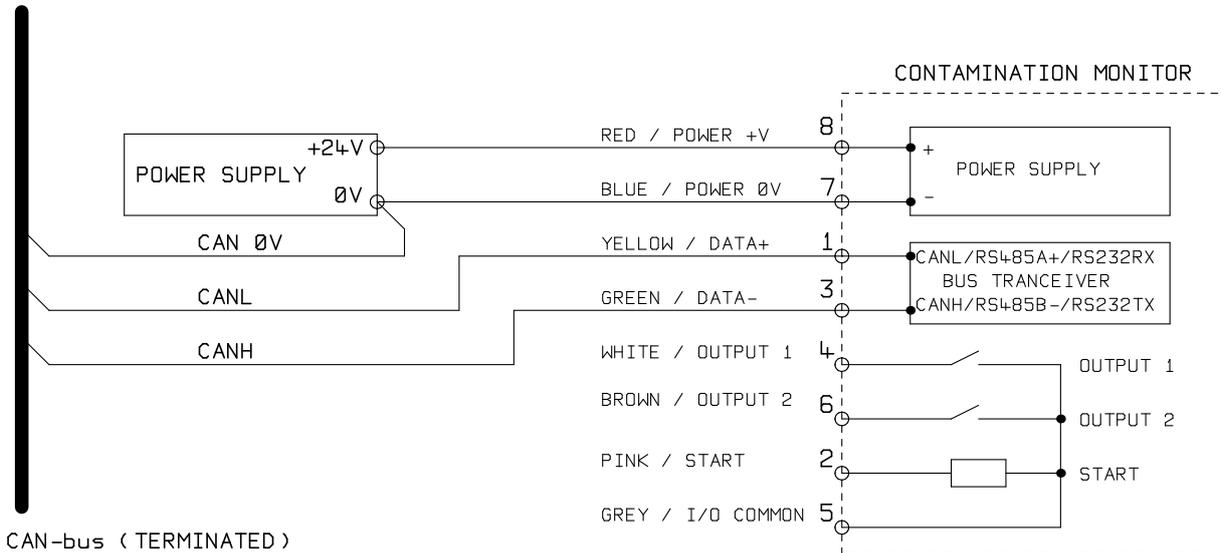

Figure 1 ICM Electrical Connection
- Connect the ICM to your CAN-bus network and provide a 24VDC power supply. See Figure 1.
The ICM requires a DC power supply and the two CAN-bus signals CANL and CANH, as shown in Figure 1. The numbers shown are the pin numbers of the circular connector that plugs into the ICM.